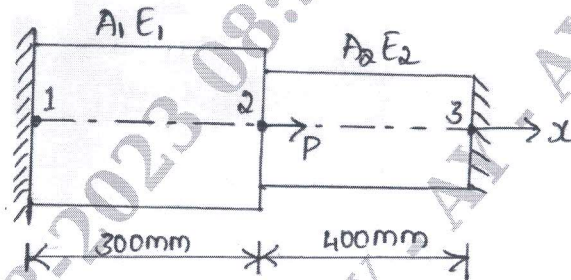

Fig. Q4 (b)
b. Consider the bar shown in Fig.Q4 (b). An axial load $P = 200 \times 10^3$ N is applied as shown using penalty approach for handling boundary condition. Determine nodal displacement and stress in each element.